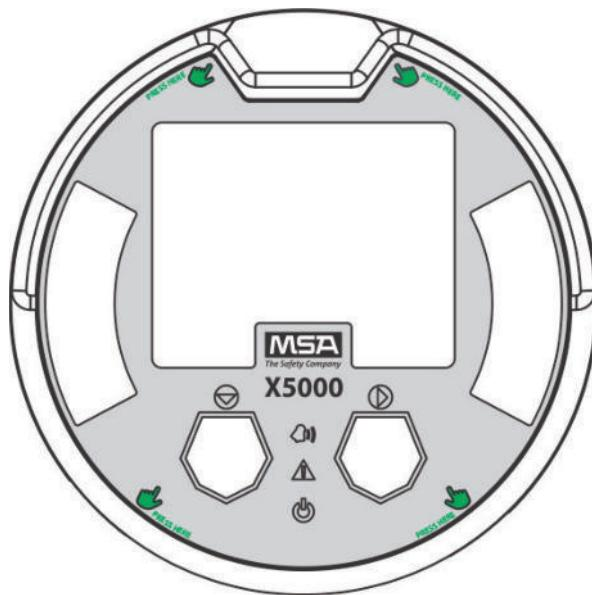

Fig. 8 Highlighted Areas Show Where to Press when Replacing a Board Stack
- (5) Verify the sensor connector is firmly seated on the terminal board.
- (6) Attach the sensor's ground to either of the grounding screws inside the ULTIMA X5000 housing.
- (7) Replace the board stack legs into the four depressions in the housing. Push firmly on the board stack where indicated (see Fig. 8).